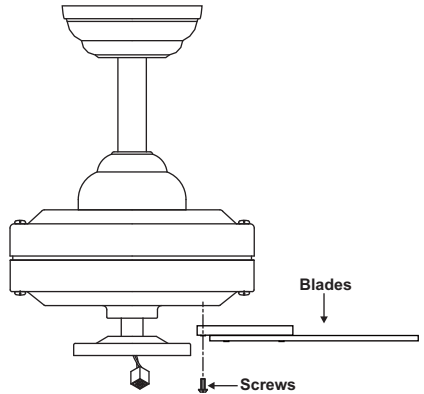

Figure 14
Step 1 Fasten blade assembly to motor using the screws supplied. (Fig. 14)